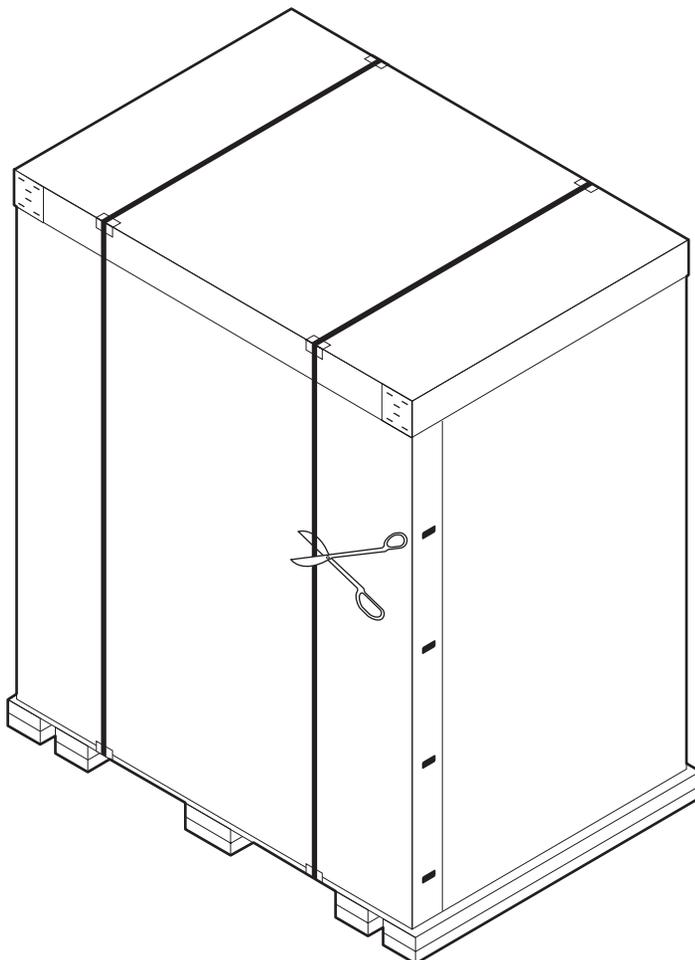

Figure 4-2: Removing the steel bands
- Using metal shears, cut the two steel bands that secure the library and packing material to the pallet (see Figure 4-2).
NOTE: Figures 4-2 through 4-13 show an ESL9326 library, however the procedures are the same for all libraries.